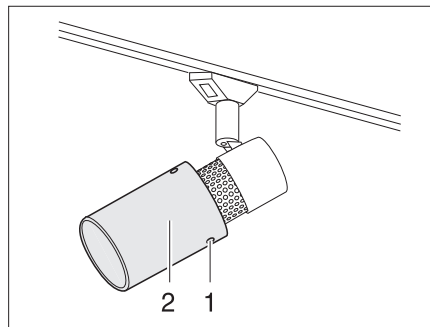

Fig. 107 Halogen spotlight (movable)
- Loosen the fixing screws (Fig. 107,1).
- Carefully remove the lamp chalice (Fig. 107,2) from the holder.